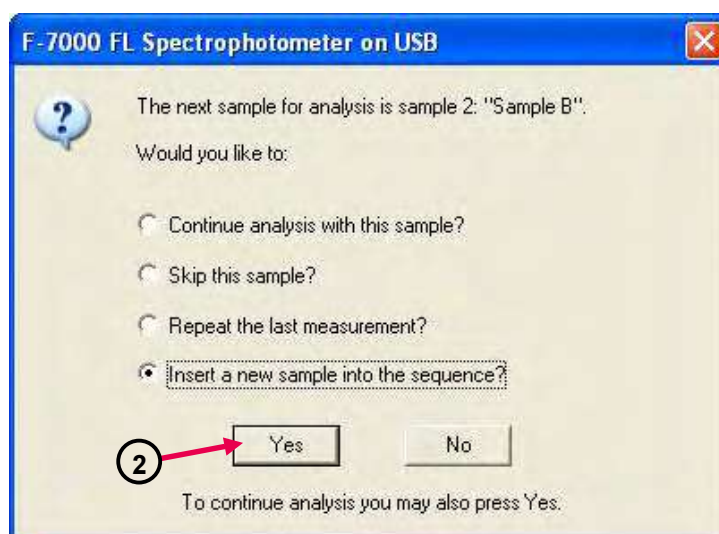

Fig. 4-38
- ② To interrupt the measurement for other samples, put a check mark for "Insert a new sample into the sequence?" as shown in Fig. 4-38. Then, click **Yes**.